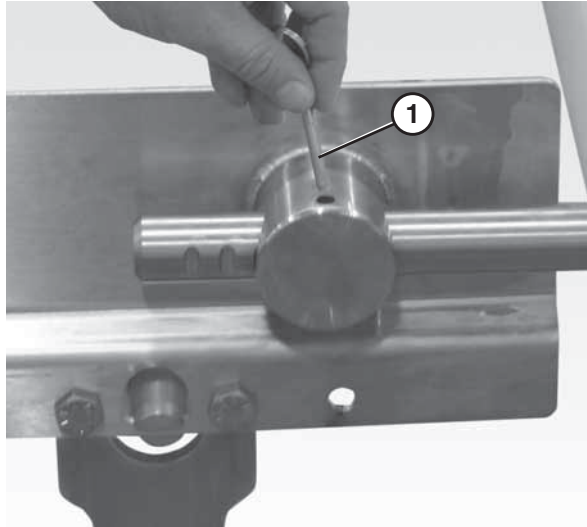

Figure 77
1. Remove the pull pins (**Figure 77, item 1**).